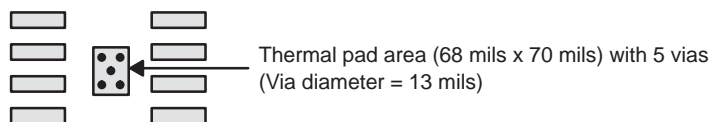

Figure 70. PowerPAD PCB Etch and Via Pattern
1. Prepare the PCB with a top side etch pattern as shown in Figure 70. There should be etch for the leads as well as etch for the thermal pad.